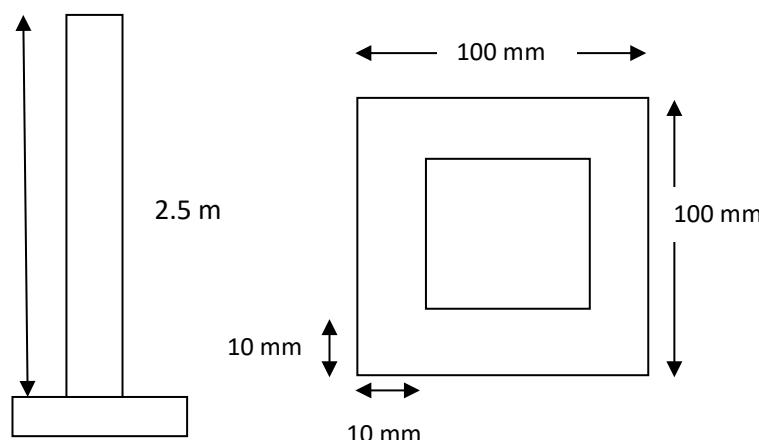

Figure A1(b) / Rajah A1(b)
- (b) A hollow column as shown in the Figure A1(b) has a length of 2.5 m. Using Euler's formula, determine: